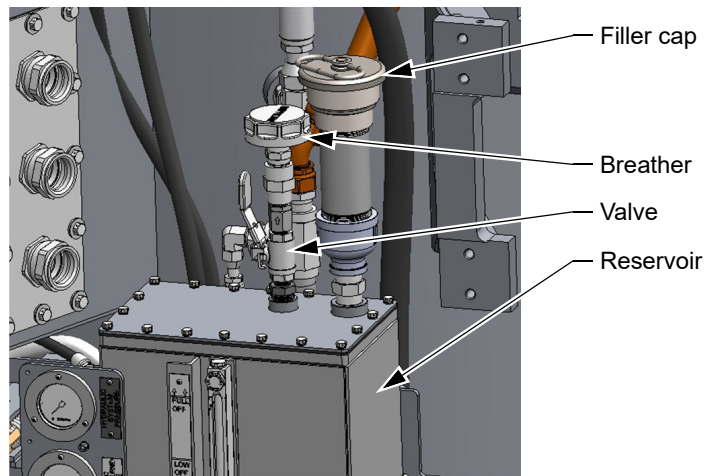

Figure 4: Reservoir filler cap, breather and valve
3. Inspect the filler cap on the reservoir shown in Figure 4 to ensure the cap is tightly fastened, installed properly, and not drawing in air.
4. Inspect the reservoir breather shown in Figure 4 and check the valve for damage or inoperability.